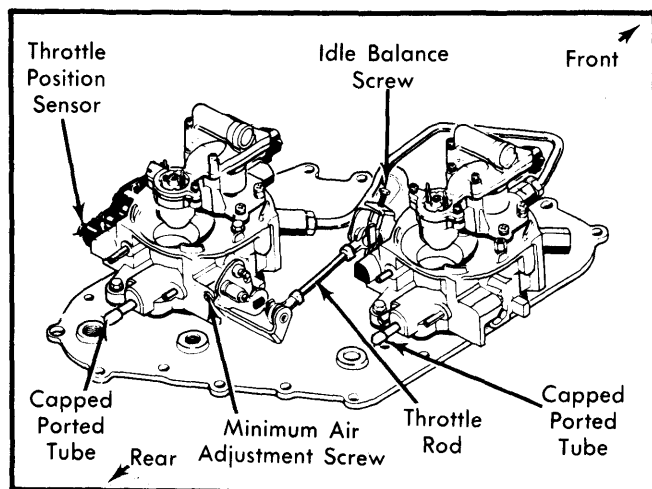

Fig. 10 Component Location for 5.0L & 5.7L Fuel Injection System
4) Remove cap from ported tube on front of throttle body and connect manometer. Reading should again be about 6" water. If adjustment is required, locate idle balance screw on throttle linkage. See Fig. 10. If screw is welded, break weld and install new screw with thread sealing compound applied. Adjust screw to obtain about 6" water on manometer. Remove manometer and install cap on ported tube.